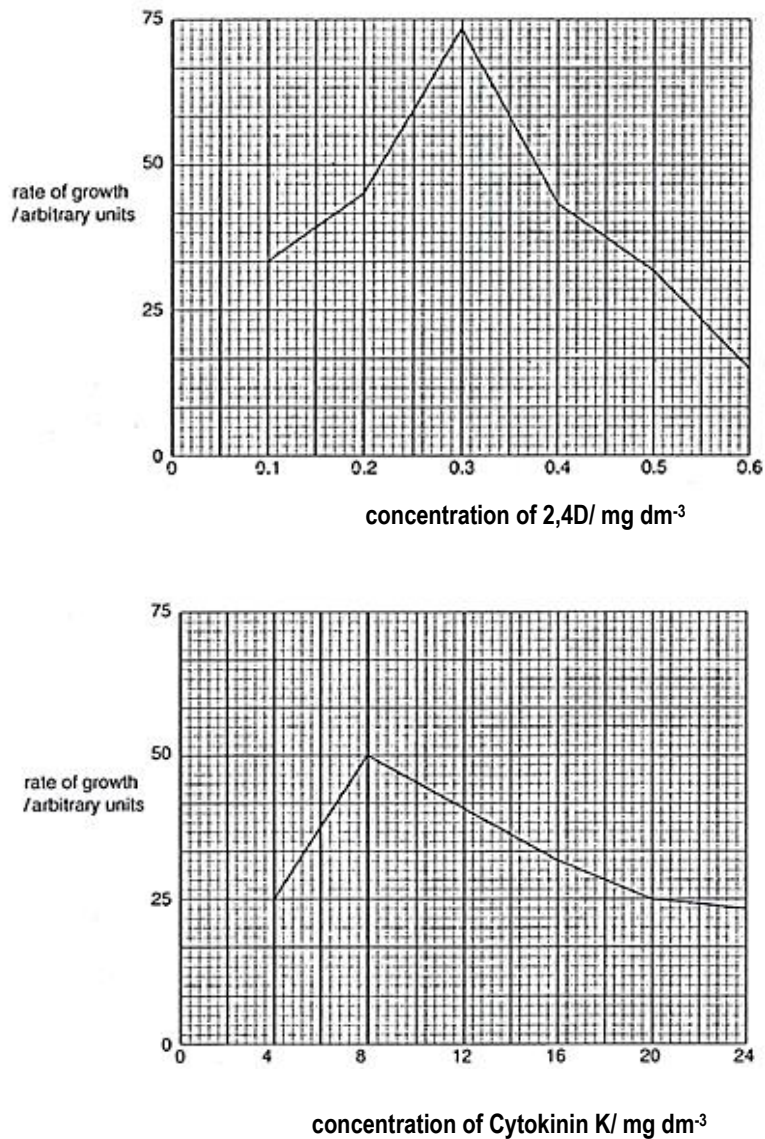

Fig. 2.1
The rates of growth of rattan explants in two types of regulators are shown (**Fig. 2.1**).
- (i) With reference to **Fig. 2.1**, compare the extent to which variations in the concentrations of **2,4 D** (a synthetic auxin) and **cytokinin K** affect the successful growth of the explant. [4]
(ii) **2,4 D** has been used to control the growth of weeds because it is also able to cause the death of cells. Use the information in **Fig. 2.1**, to justify what might be the lowest effective concentration of **2,4 D** to elicit cell death. [2]